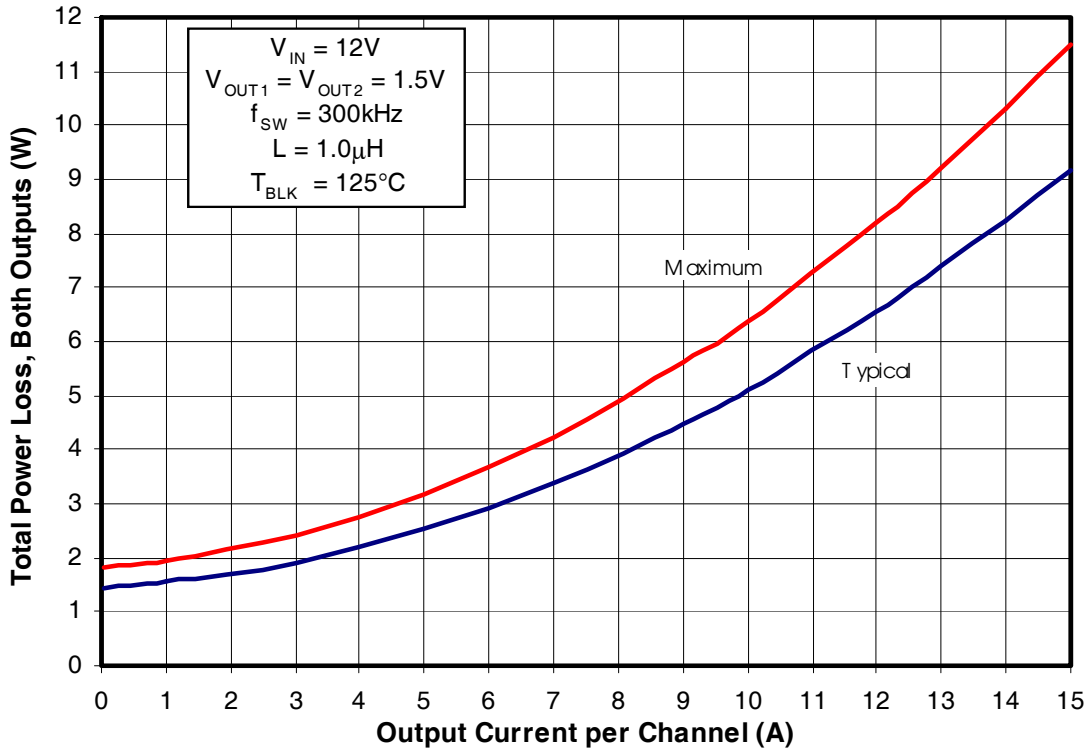
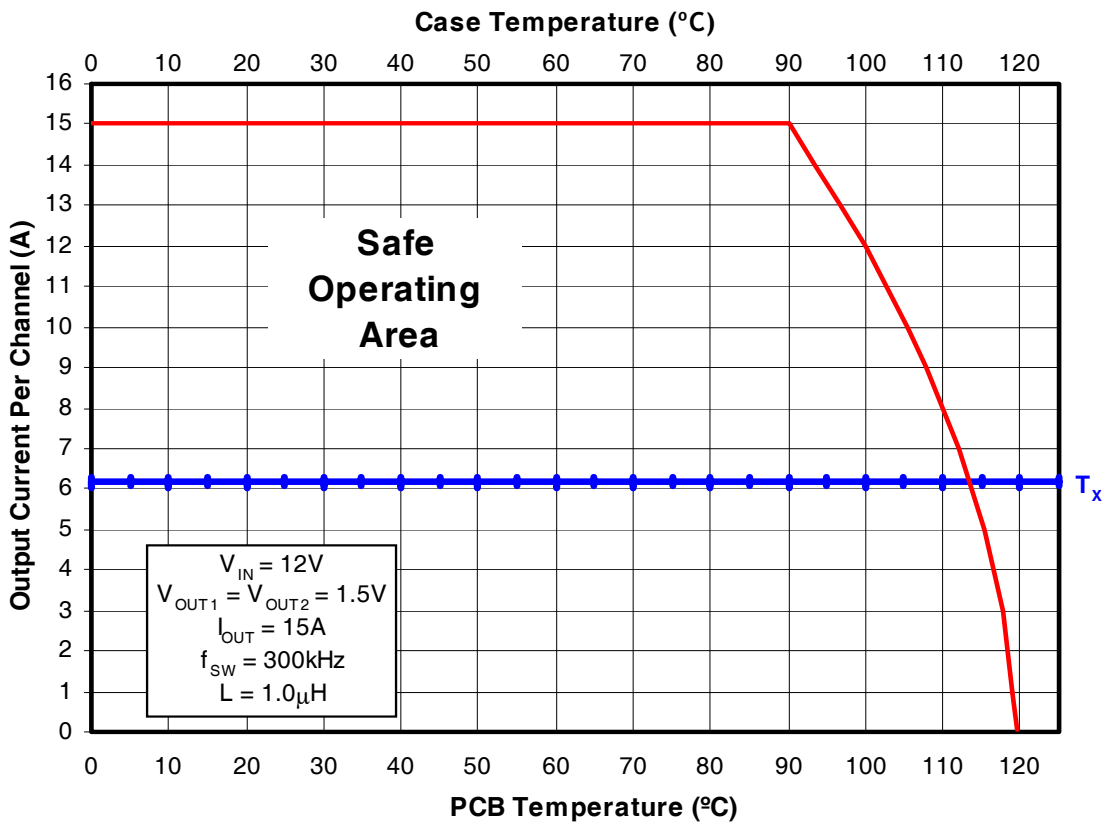
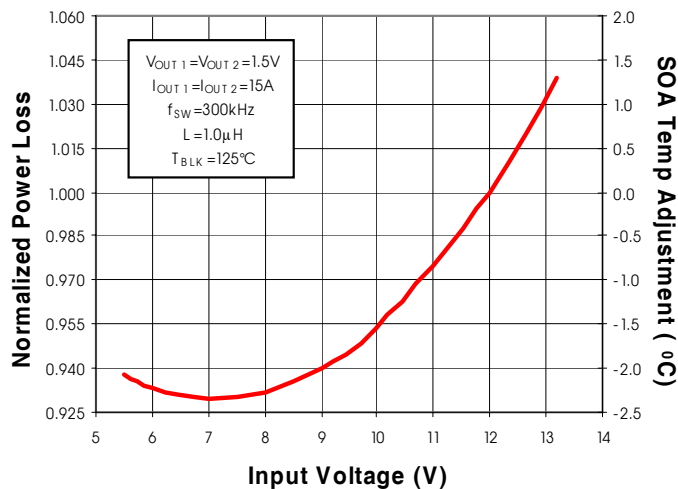

Fig. 2: Power Loss vs. Current
Fig. 3: Safe Operating Area (SOA) vs. T_{PCB} & T_{CASE}
Fig. 4: Normalized Power Loss vs. V_{IN}
| Output RMS Current Per Channel | I _{outVSW} | - | - | 15 | A | 2 Independent outputs. See Fig. 3 |
| Output RMS Current Per Channel | I _{outVSW} | - | - | 15 | A | 2 Independent outputs T _{PCB} = T _{CASE} = 90°C. See Fig. 3 |
| | | - | - | 11 | A | 2 Independent outputs T _{PCB} = 90°C, T _{CASE} = no airflow, no heatsink. See Fig. 3 |
To make adjustments to the power loss curves in Fig. 2, multiply the normalized value obtained from the curves in Figs. 4, 5, 6 or 7 by the value indicated on the power loss curve in Fig. 2. Remember that the power loss in Fig 2. is the power loss for 2 outputs operating with the same output voltage. If differing output voltages are used the initial power loss for each channel needs to be divided by 2. Then if multiple adjustments are required, multiply all of the normalized values together, then multiply that product by the value indicated on the power loss curve in Fig. 2. The resulting product is the final power loss based on all factors. See example no. 1.
To make adjustments to the SOA curve in Fig. 3, determine your maximum PCB Temp & Case Temp at the maximum operating current of each iP1202. Then, add the correction temperature from the normalized curves in Figs. 4, 5, 6 or 7 to the T_x axis intercept (see procedure no. 2 above) in Fig. 3. When multiple adjustments are required, add all of the temperatures together, then add the sum to the T_x axis intercept in Fig. 3. See example no. 2.
- Output1 (Fig. 2) Maximum power loss = $W 8.25/2 = 4.125W$
(Fig. 4) Normalized power loss for input voltage ≈ 0.93
- Output2 (Fig. 2) Maximum power loss = $6.4W / 2 = 3.2W$
- (Fig. 4) Normalized power loss for input voltage ≈ 0.93
- Output1 (Fig. 4) Normalized SOA Temperature for input voltage $\approx -2.3^{\circ}C$
- Output2 (Fig. 4) Normalized SOA Temperature for input voltage $\approx -2.3^{\circ}C$